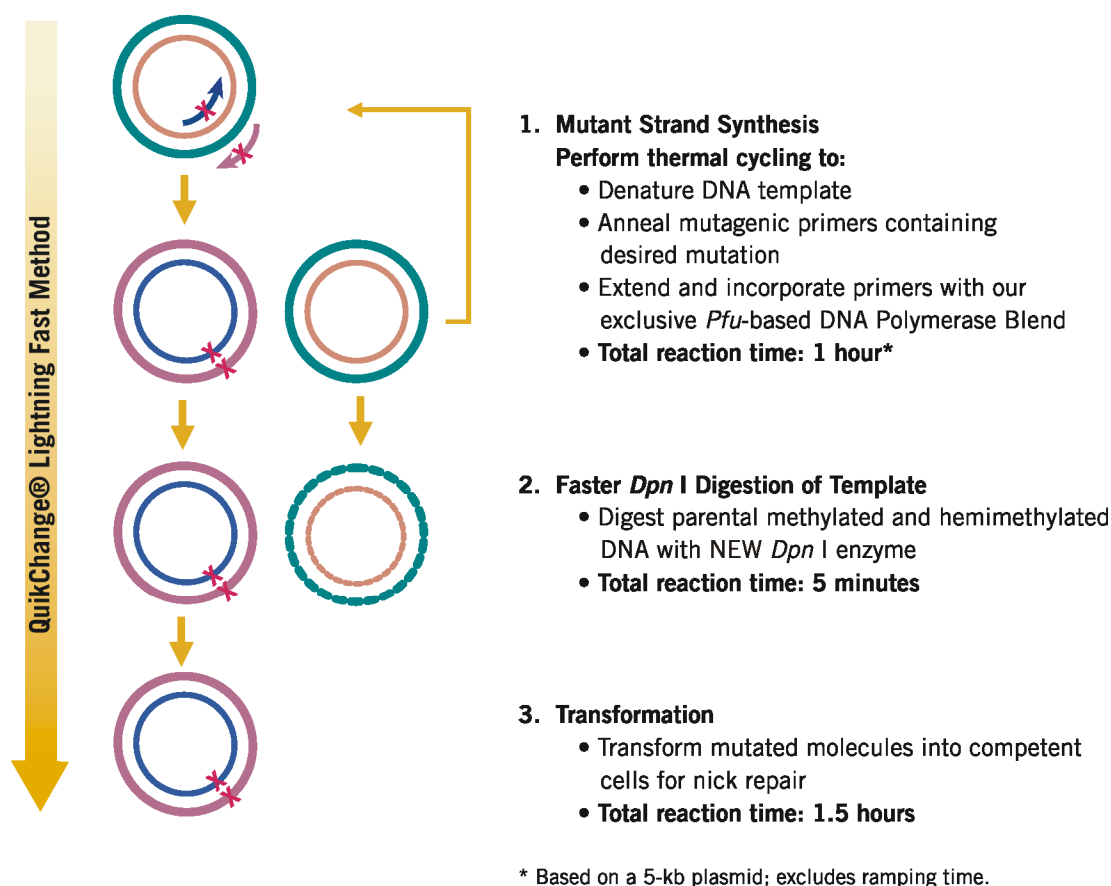

FIGURE 1 Overview of the QuikChange Lightning site-directed mutagenesis method.
In vitro site-directed mutagenesis is an invaluable technique for characterizing the dynamic, complex relationships between protein structure and function, for studying gene expression elements, and for carrying out vector modification. Several approaches to this technique have been published, but these methods generally require single-stranded DNA (ssDNA) as the template¹⁻⁴ and are labor intensive or technically difficult. Our QuikChange Lightning Site-Directed Mutagenesis Kit allows site-specific mutation in virtually any double-stranded plasmid, thus eliminating the need for subcloning and for ssDNA rescue.⁵ In addition, the QuikChange Lightning Site-Directed Mutagenesis Kit does not require specialized vectors, unique restriction sites, multiple transformations or in vitro methylation treatment steps. The simple, rapid three-step procedure requires only about one hour prior to transformation (for plasmids up to 5 kb), and generates mutants with greater than 85% efficiency in a single reaction (see Figure 1).
The QuikChange Lightning Enzyme is a novel proprietary blend that includes a derivative of *PfuUltra* high-fidelity (HF) DNA polymerase for mutagenic primer-directed replication of both plasmid strands with the highest fidelity. The basic procedure utilizes a supercoiled double-stranded DNA (dsDNA) vector with an insert of interest and two synthetic oligonucleotide primers, both containing the desired mutation (see Figure 1). The oligonucleotide primers, each complementary to opposite strands of the vector, are extended during temperature cycling by *PfuUltra* HF DNA polymerase, without primer displacement. Extension of the oligonucleotide primers generates a mutated plasmid containing staggered nicks. Following temperature cycling, the product is treated with *Dpn* I. The *Dpn* I endonuclease (target sequence: 5'-Gm⁶ATC-3') is specific for methylated and hemimethylated DNA and is used to digest the parental DNA template and to select for mutation-containing synthesized DNA.⁶ (DNA isolated from almost all *E. coli* strains is dam methylated and therefore susceptible to *Dpn* I digestion.) The nicked vector DNA containing the desired mutations is then transformed into XL10-Gold ultracompetent cells.